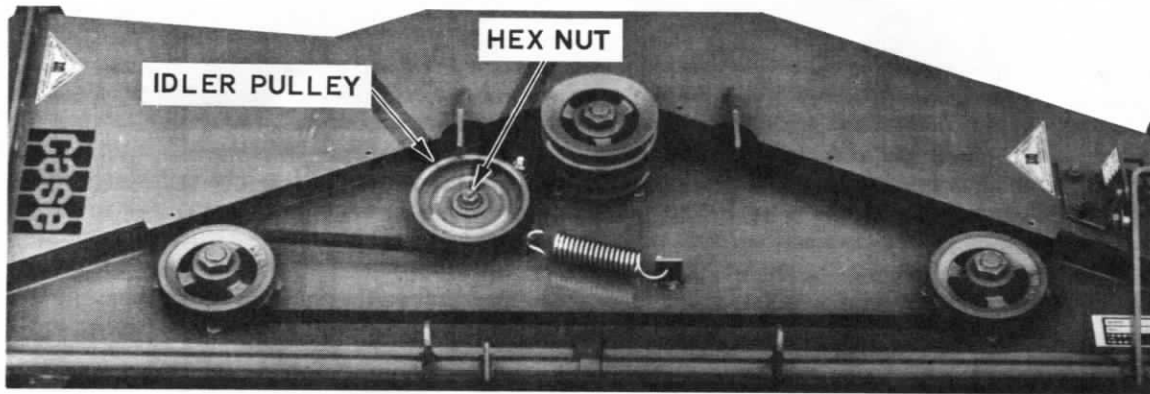

Figure 8.
8. Mower Deck Belt Replacement: See Figure 8.